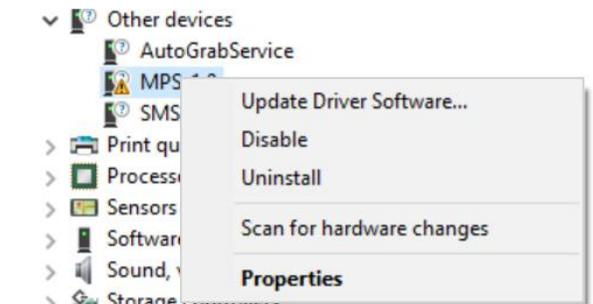

Figure 12: Updating the Driver Software
- Open the Device Manager and select “Update Driver Software” (see Figure 12).